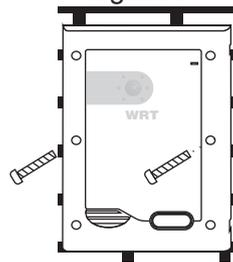

figure5
5. Connect the transmission cable, press the station into the bottom case. Fix it with 2 screws (figure5)